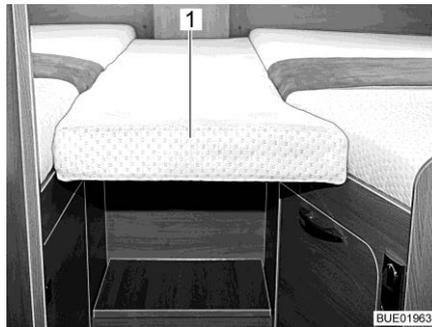
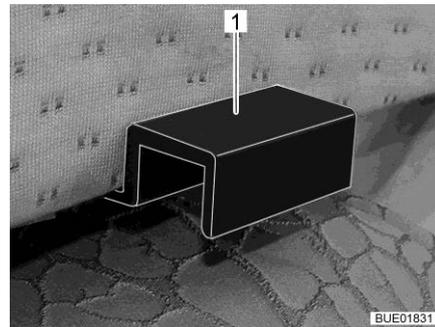

Fig. 169 Additional cushion
Fig. 170 Additional cushion holder
- Hook the additional cushion (Fig. 169,1) with the holders (Fig. 170,1) into the panels of the single beds so that a closed lying surface is created.